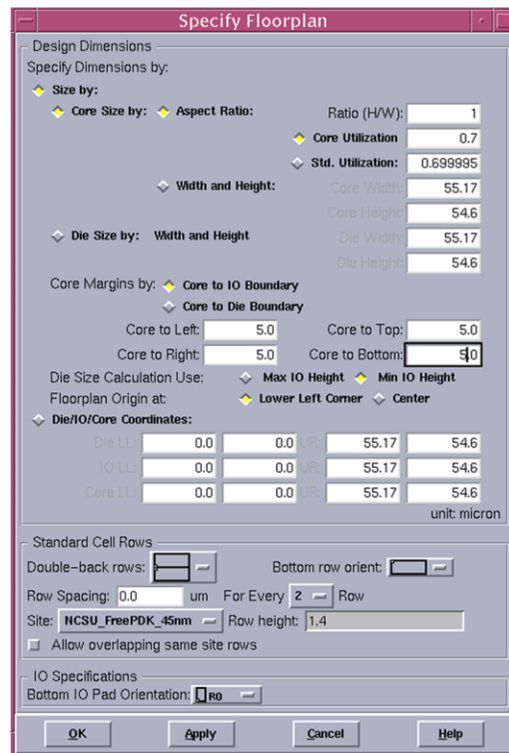

Figure 26: Floorplan Setting
- Floorplan-> Specify Floorplan. See Figure.26 for the setting;